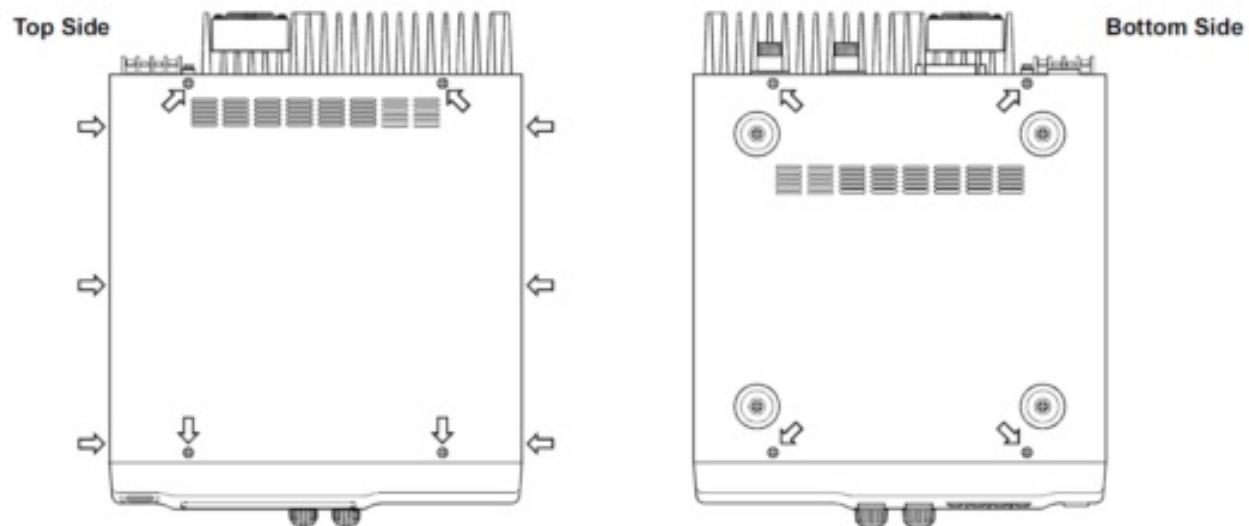

Figure 1
1. Remove the 14 screws affixing the top and bottom covers of repeater, and remove the covers (Figure 1).